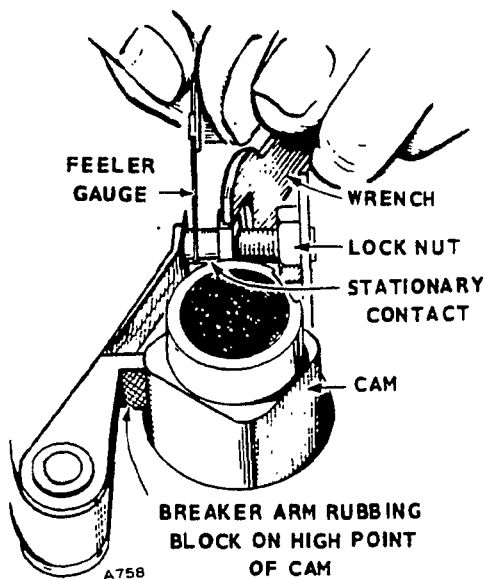

FIGURE 48. BREAKER POINT GAP
At regular intervals, add three to five drops of medium engine oil to distributor oiler (Figure 48). Add one drop of light engine oil to breaker arm hinge pin and three to five drops to felt in top of shaft and to governor weight pivots. Lightly grease each lobe of breaker cam. Do not over-lubricate the distributor.
10. Rotate drive shaft to obtain maximum breaker gap and set gap for 0.020 inch (Figure 48).